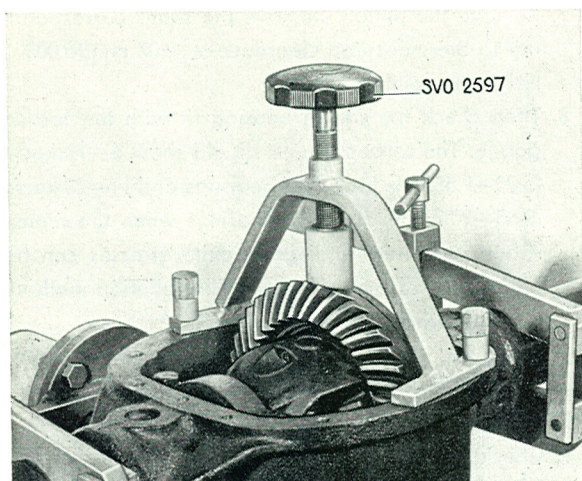

Fig. 4-116. Brake tool for differential
2. Fit on brake tool SVO 2597 as shown in Fig. 4-116. Mark with colour several teeth at three points on the crown wheel. This can act as a check for possible crown wheel warping. Rotate the pinion 10—12 turns in both directions and check the contact marking pattern. At the correct tooth contact, the contact marking pattern should be horizontally in the middle of the tooth but some-